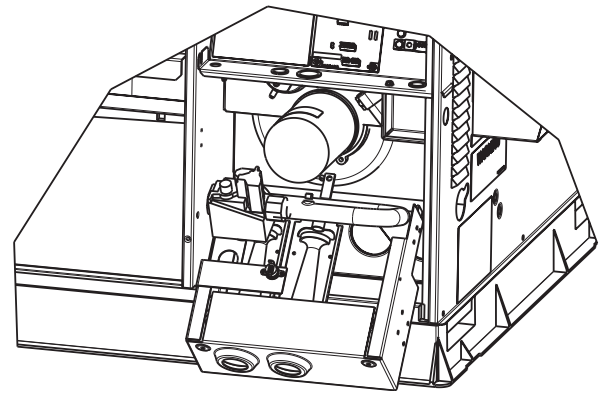

Fig. 23 - Burner Rack Removed
3. Slide the assembly out of the unit. (See Fig. 23). Clean the blower wheel. If additional cleaning is required, continue with Steps 4 and 5.